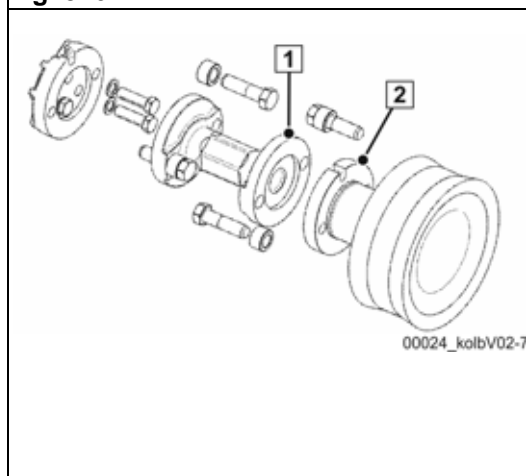
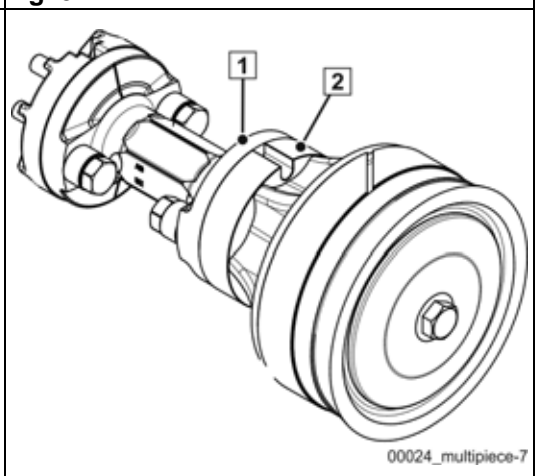

Fig. 328
Fig. 329 Multi-piece
- Connect the piston rod flange (1) to the pumping piston flange (2) using a screw and nut as shown in (Fig. 328) / (Fig. 329).
(Fig. 329) depicts the “Multi-piece” variant.
- Pull the piston out of the cylinder (**Fig. 329**).